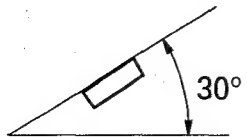

Fig. 8
- If installation angle exceeds 30° from horizontal, the unit might not give its optimum performance. (Fig. 8)